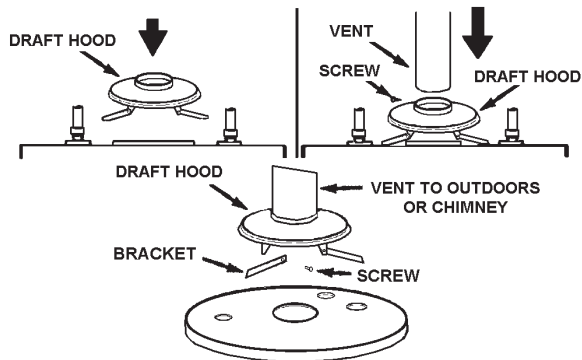

FIGURE 13.
- Place the vent pipe over the draft hood. With the vent pipe in position, drill a small hole through both the vent pipe and draft hood. Secure them together with a sheet metal screw. See Figure 13.